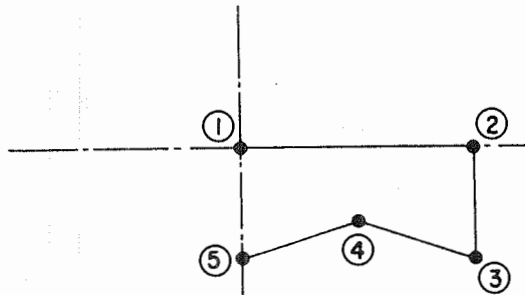

Fig. 1
Step 1 Press the or keys to make the needle move to the section of data up to point ① created using the jump input function. (The needle will be brought to its origin.)
This erases the data up to point ① created using the jump input function. The needle will then return to its origin. The pattern now has a Linear stitch between point ② and point ⑤ starting from the origin, as illustrated in Fig. 1.